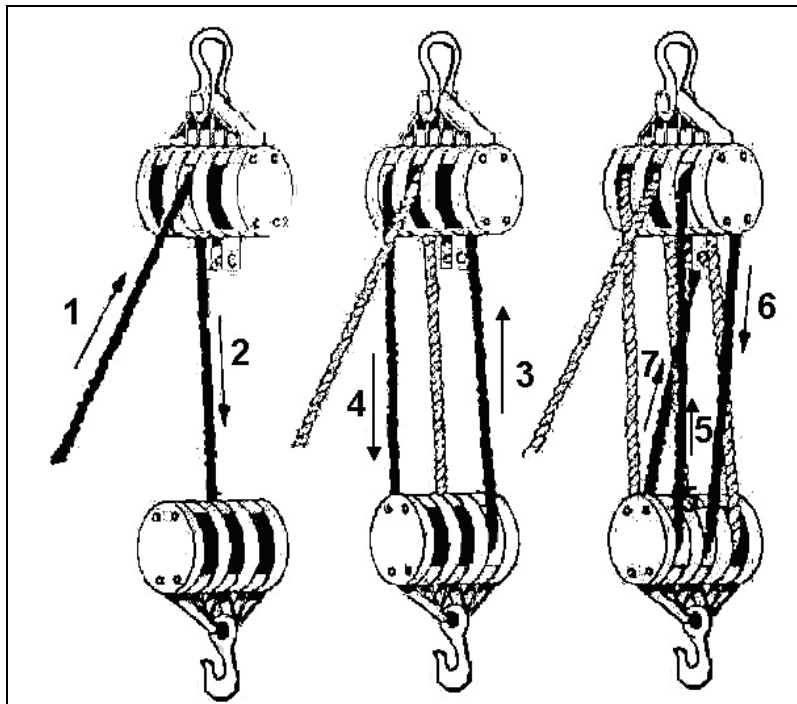

Figure 3-33. Reeve Triple Sheave Blocks
1. Reeve triple sheave blocks (see Figure 3-33).